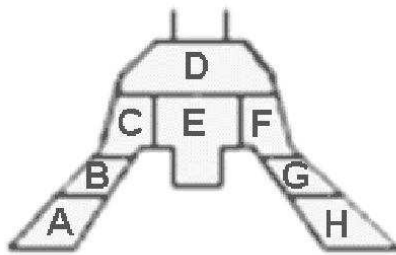

Figure C.1: The cockpit layout.
In this chapter all controls and instruments that are referred to in the knowledge base are described. Also for controls or instruments that can only have a limited amount of values those values are given. For every control or instrument first the position in the cockpit is given according to the layout in figure C.1. Then the name, the possible values and the function of that control or instrument is described. The values are usually given as a description of the state of the control or instrument in capital letters, with the exception of some controls that can have the value 1 or the values 0 and 1. Controls that have only one value are usually buttons the pilot can push. Controls with the values 0 and 1 are the buttons with which the pilot can fire a gun and the pickle button. These buttons have an effect as long as the pilot keeps them depressed. That's why for those buttons the moment it is depressed (1) as well as the moment it is released (0) are important.
display of the control or instrument might be given in the description of the control or instrument. In the other cases the location is the location of the meter that displays the value or a "-" if the location of the switch or control is unknowns or if there is no display or switch for the control or instrument on the layout in figure C.1. The following controls and instruments are referred to in the knowledge base: